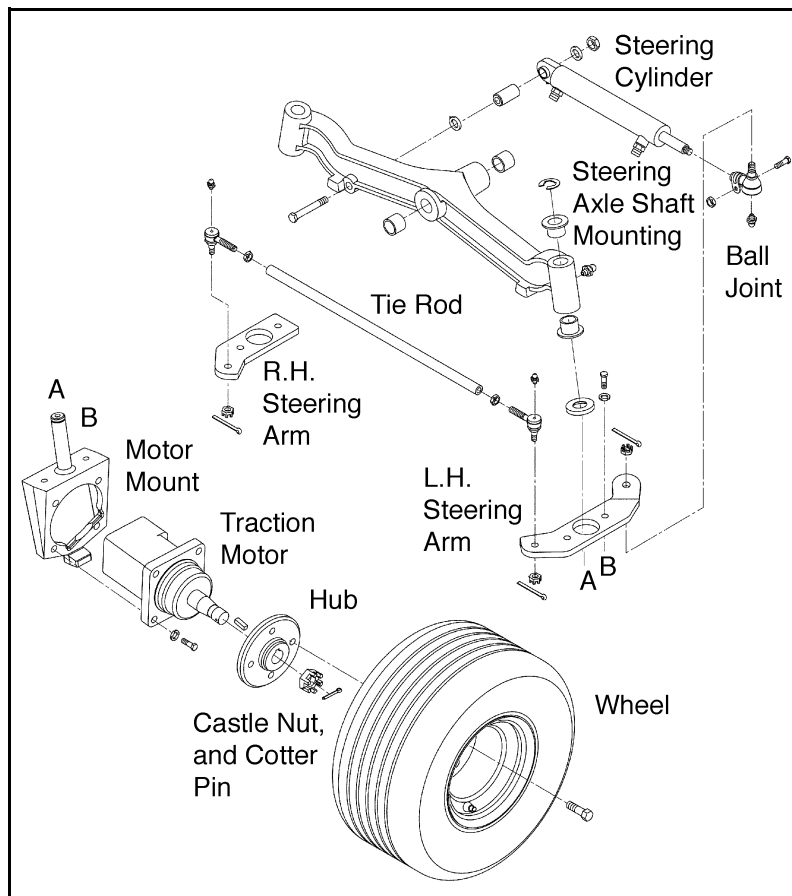

Figure 9F-3. 4 Wheel Drive Steering Axle
8. Assemble and install the axle. Secure with the mounting plate, mounting shaft, and castle nut. Tighten the castle nut firmly and back off to the nearest castle nut slot and mounting shaft hole. Install the cotter pin (Figure 9F-3).